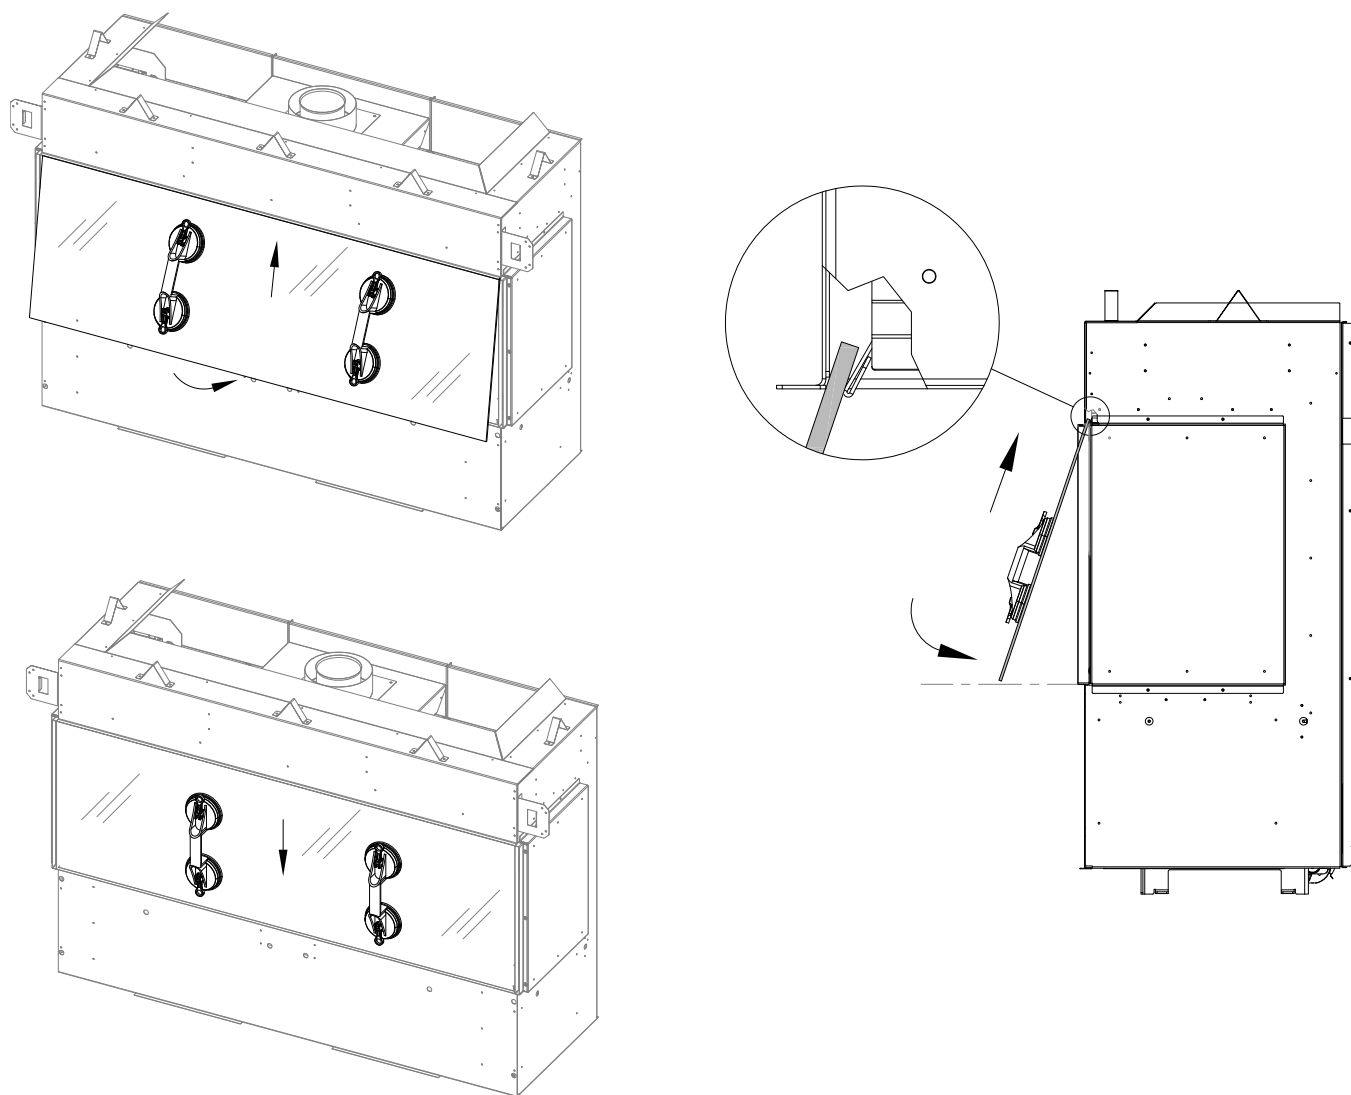

Figure 7.2 - Safety Glass Installation
1. Start with the bottom edge of the glass tilted towards you, slide the top edge of the glass behind the top finishing edge of the fireplace. There is a glass bracket behind this top finishing edge (on the inside of the fireplace) that holds the glass. Ensure the glass is sliding into this bracket. See the image on the right in Figure 7.2 for a close up of this support bracket.